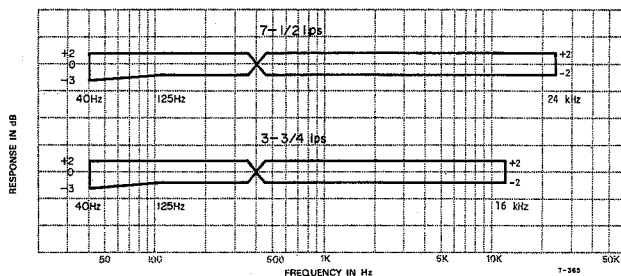

Fig. 9-11 Frequency Response Limits - Record -
5. Repeat Overall response check at LOW speed. Both speeds refer to response Limits given in figure 9-11 and 9-12.